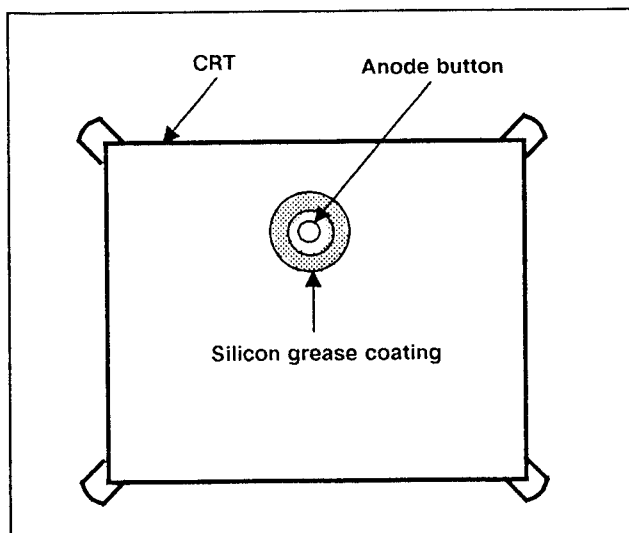

Fig. 6
- Subsequent to replacement of the CRT and HV transformer or repair of the anode cap, etc. by dismounting them, be sure to coat silicon grease for electrical insulation as shown in Fig. 6. Wipe around the anode button with clean and dry cloth. (Fig. 6)